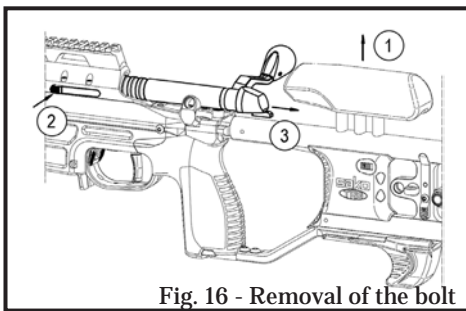

Fig. 16 - Removal of the bolt
1. Fold the rear stock to the right side of the rifle or raise the cheek piece to the uppermost position (1, (Fig. 16).
2. Press and hold the bolt opening release (2).
3. Simultaneously pull the bolt backwards out of the receiver (3).